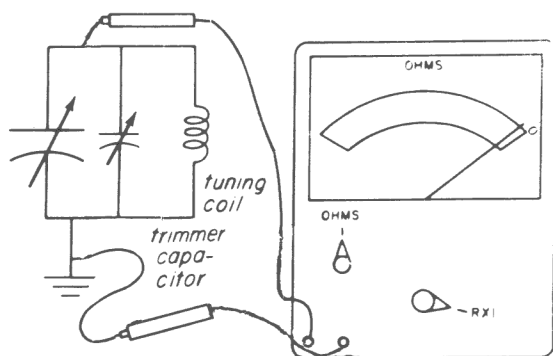

Fig. 15-17
3. Turn the tuning knob of receiver until all the capacitor plates are out of mesh. Connect one test prod of the ohmmeter to chassis ground and the other prod to the stator terminal lug of one of the two sections, as shown in Fig. 15-17.